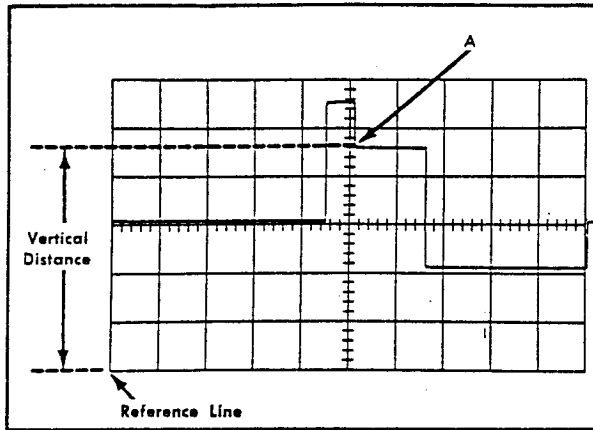

Fig. 2-15. Measuring instantaneous dc voltage with respect to a reference.
9. Measure the distance in divisions between the reference line and the point on the waveform at which the dc level is to be measured. For example, in Fig. 2-15 the measurement is made between the reference line and point A.
**Example.** Assume that the vertical distance measured is 4.6 divisions (see Fig. 2-15), the waveform is above the reference line, using a 10× attenuator probe and a VOLTS/DIV setting of 2.